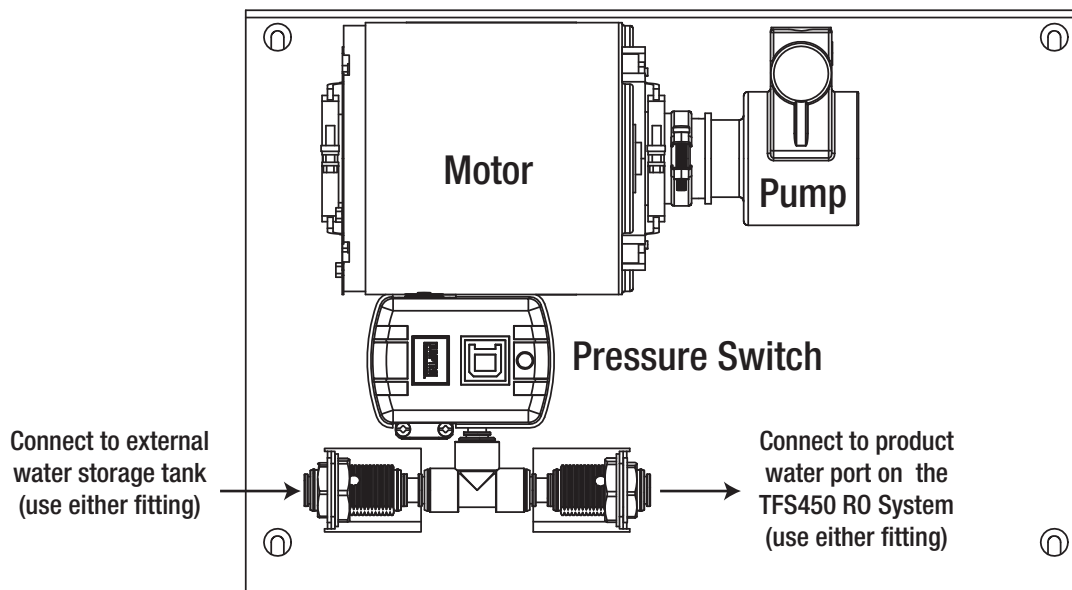

Figure 5
1. Run 1/2" O.D. tubing from the external water storage tank to one of the 1/2" quick connect push-in fittings located on the TFS450-BP Water Booster Pump port as shown in Figure 5. Note: It does not matter which fitting the tank plugs in to.
2. Run a 1/2" tube from the other port on the pump assembly to the product water port on the TFS450 RO Filtration System (see Figure 5).